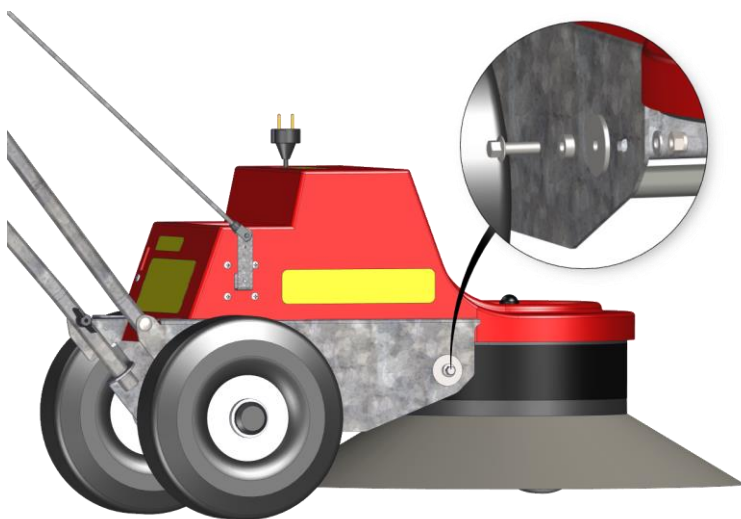

Fig. 57: Take-up screw for swath plate WR 650
1. Establish the screw connection (take-up screw) according to Fig. 57 and tighten to the required torque of approx. 26 Nm (see Tab. 2, page 107).